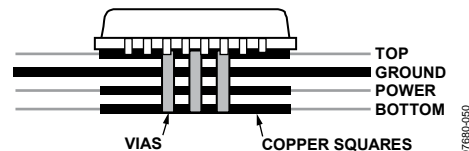

Figure 65. Exposed Pad Layout Example, Side View
- A copper layer equal in size to the exposed pad should be on all layers of the board, from top to bottom, and should connect somewhere to a dedicated copper board layer (see Figure 65).